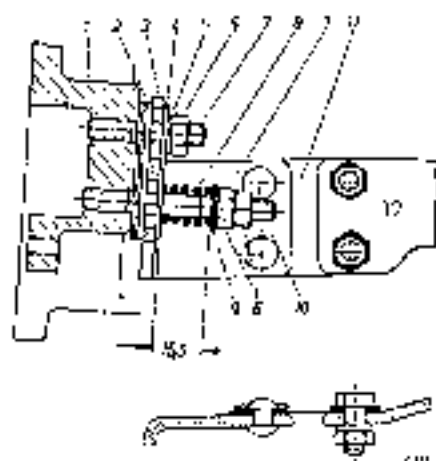

Fig. 26-1/6
1. Unscrew the hexagon nuts (1) and detach the compensating spring with pull rod (3), the cup washer (2) and the rubber buffer (Fig. 26-1/5).
2. After installing the clutch pedal shaft, attach the compensating spring, and adjust the pull rod of the compensating spring (3) by means of the two hexagon nuts in such a way that the compensating spring has a length "c" as shown in Fig. 26-1/4. Further installation procedures are identical with those described for the 2nd version.
2. Detach the swivel support (9) from the spring plate (8) by removing the two hexagon screws (Fig. 26-1/7).